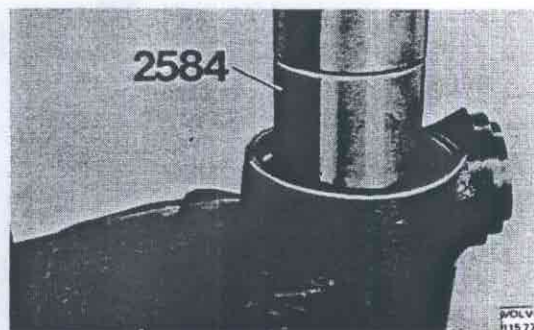

Fig. 46-101. Pressing in the gear wheel
2. Press the gear wheel into the wheel carrier housing, using 2584, Fig. 46-101. Secure the circlip.